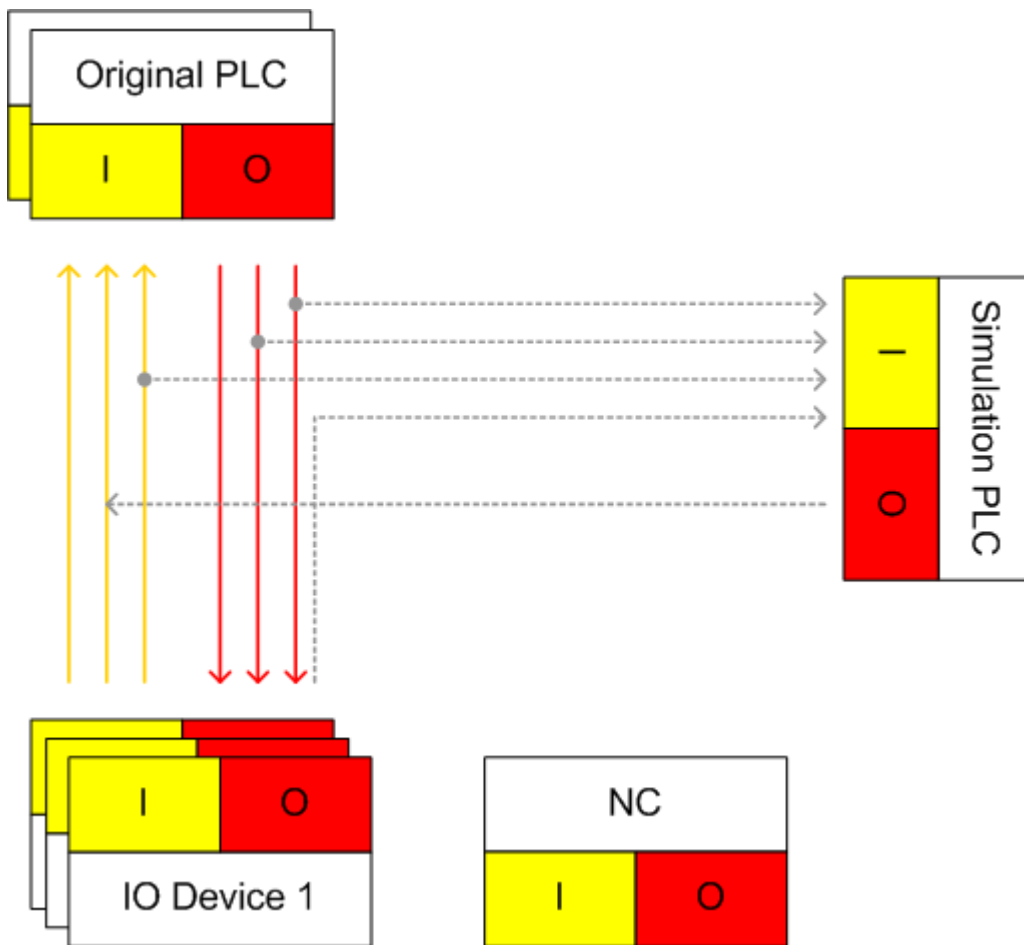

Fig. 2: Figure 1: TwinCAT System in original mode
A selection of the "Remind to update boot project on change" feature within the PlcControl project options (Figure 2 [▶ 17]) will be helpful to remember that the bootprojects are staying consistent to the running PLC programs on the target.
2. The symbol information was copied to the target system during Project download from the PLC control. To enable this feature the Option "Download Symbol description" must be activated in the PlcControl options (Figure 2 [▶ 17]) and the compiled project must be available on the target system.
The Dialog consists mainly of two list boxes (see Figure 2 [▶ 54]):
If all steps succeeded the wizard looks like shown in Figure 2.